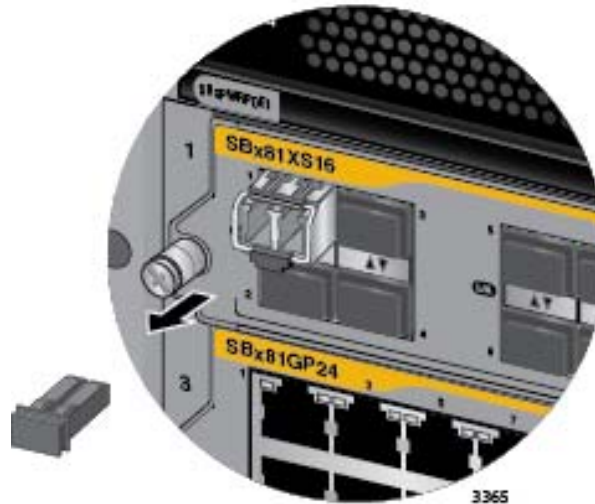

Figure 107. Removing the Dust Cover from a Transceiver
3. Remove the protective cover from the + transceiver. Refer to Figure 107.